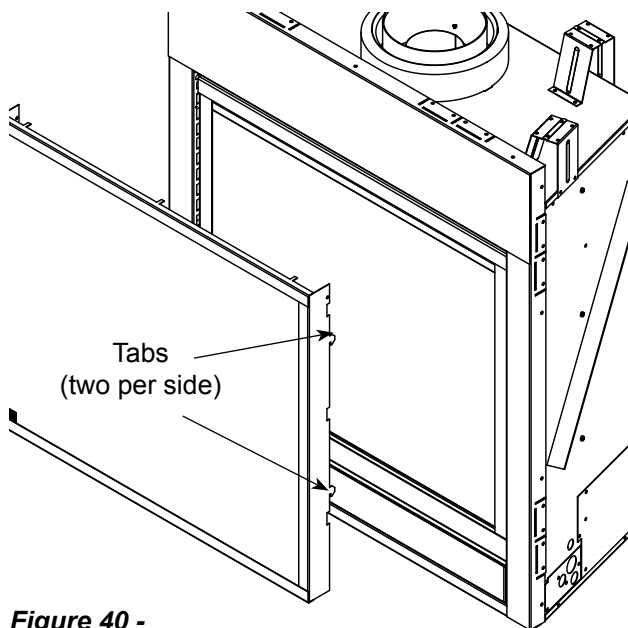
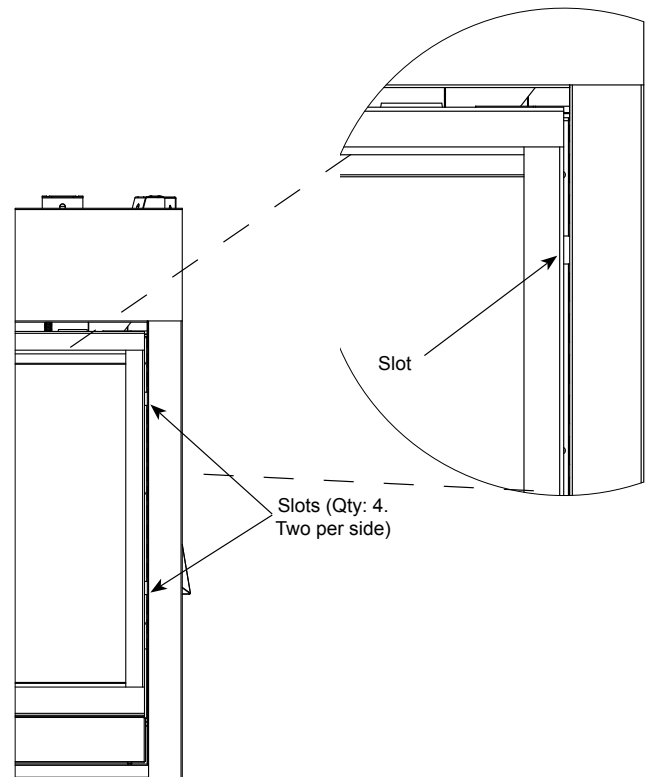

Figure 40 -
Figure 41 -
2. Align the four tabs on the sides of the screen frame (two top, two bottom) *Figure 40* with the corresponding slots on the firebox. *Figure 41*.